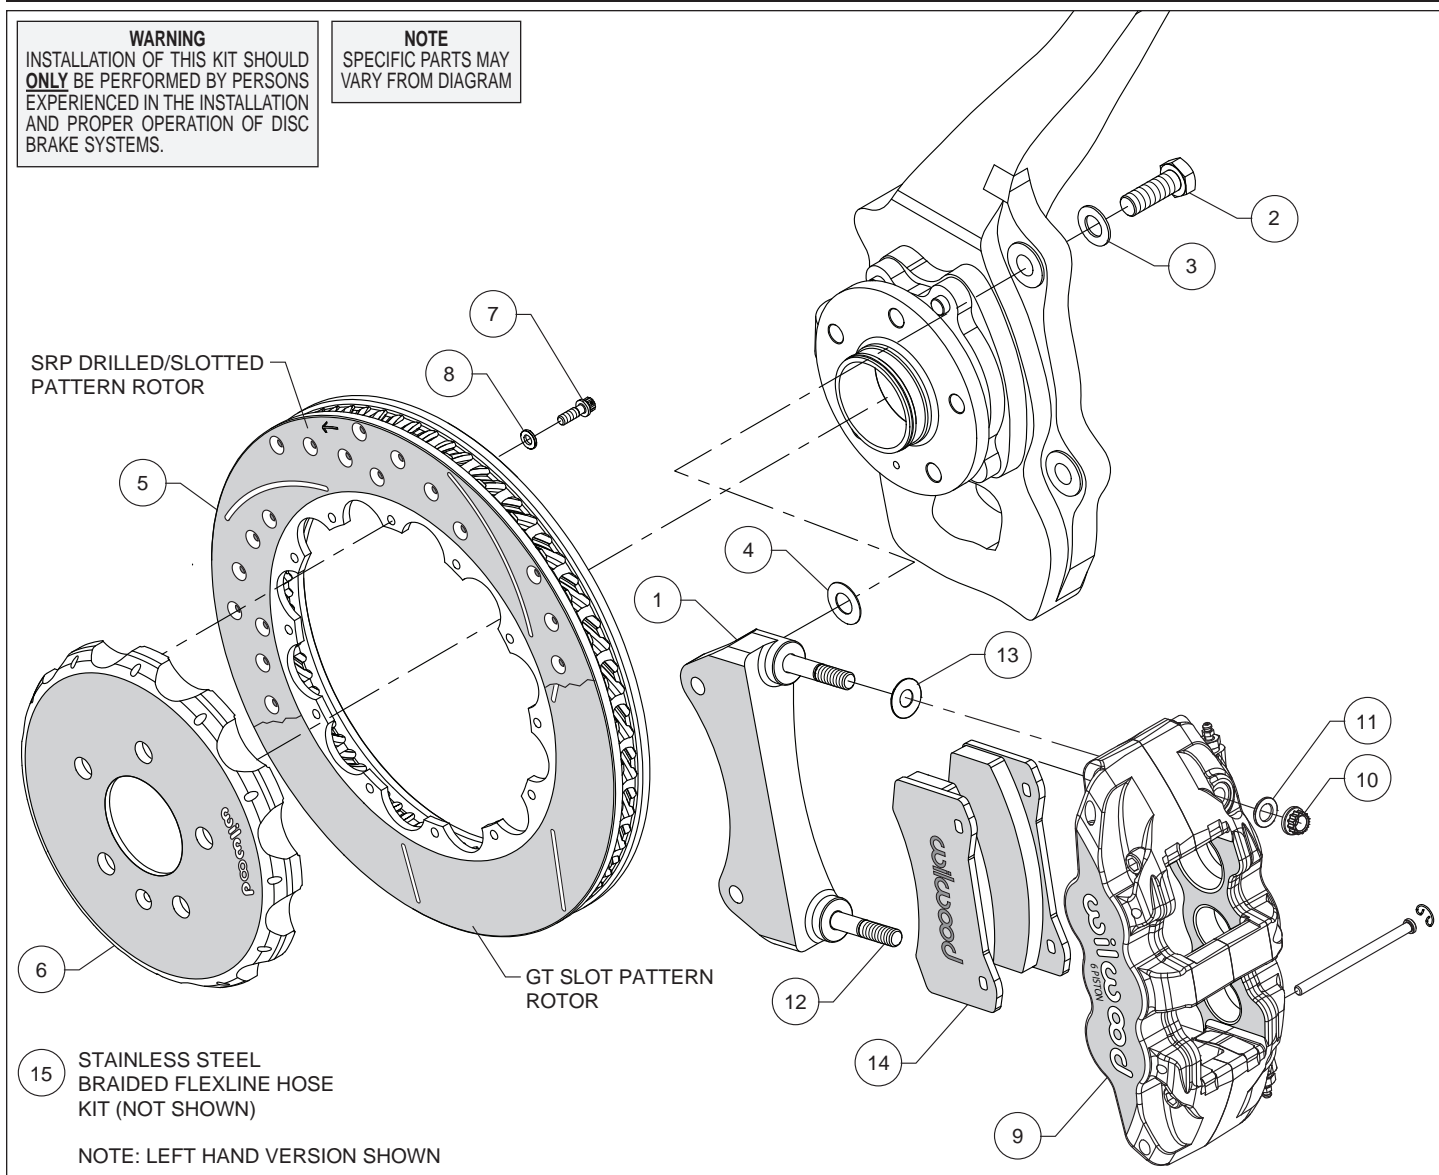
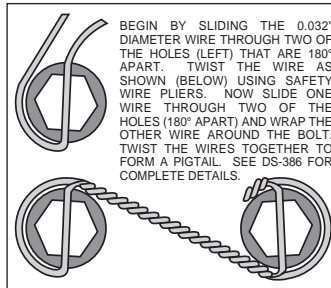

Figure 1. Typical Installation Configuration
Figure 3. Safety Wire Diagram
**Assembly Instructions** (numbers in parenthesis refer to the parts list and Figure 1 on the preceding pages):
- The caliper mount bracket (1) should initially be installed with clean, dry threads on the mounting bolts. Orient the bracket as shown in Figure 1 and Photo 1, and install using bolts (2) and washers (3). Initially place one .029 thick shim (4) on each bolt between the bracket and upright, Figure 1. Temporarily tighten the mounting bolts. **NOTE:** *The bracket must fit squarely against the mounting points on the upright.* Inspect for interference from casting irregularities, machining ridges, burrs, etc. Later, after the caliper alignment has been checked, the mount bolts will be secured using red *Loctite*® 271.
- Orient the rotor (5) and the hat (6) as shown in Figure 1 and Photo 2. Attach rotor to hat using bolts (7) and washers (8). Using an alternating sequence, apply red *Loctite*® 271 to the threads, and torque to 155 **in-lbs**. For an added measure of security, the bolts may be safety wired using standard 0.032 inch diameter stainless steel safety wire as shown in Figure 3. Please refer to Wilwood's data sheet DS-386 (available at [www.wilwood.com/Pdf/DataSheets/ds386.pdf](http://www.wilwood.com/Pdf/DataSheets/ds386.pdf)) for complete safety wire installation instructions.
- **NOTE:** *This kit contains distinct right and left hand calipers that must be mounted in a specific direction, as described below.* Lubricate the caliper mounting studs (12) with lightweight oil. Initially place one .030" thick shim (13) on each stud between the caliper and the bracket, as shown in Figure 1 and Photo 5. Mount the caliper (9) onto the bracket (1) using lock nuts (10) and washers (11), Figure 1. Ensure that the caliper is mounted so the largest pistons are at the rotor exit end of the caliper, in relation to the direction of rotor rotation. Temporarily tighten the lock nuts and view the rotor through the top opening of the caliper. The rotor should be centered in the caliper, Photo 6. If not, adjust by adding or subtracting shims (4) between the bracket and the upright. Always use the same amount of shims on each of the two mounting bolts. Once the caliper alignment is correct, remove the bracket mounting bolts (2) one at a time, apply red *Loctite*® 271 to the threads, and torque to 77 **ft-lbs**.
- Remove the two pad retaining pins from the caliper (9) by carefully popping out the pin retaining clips and sliding out the pins. Insert the brake pads (14) into the caliper from the bottom, Figure 1 and Photo 7. With the friction material facing the rotor, secure the brake pads in place with the pad retaining pins and